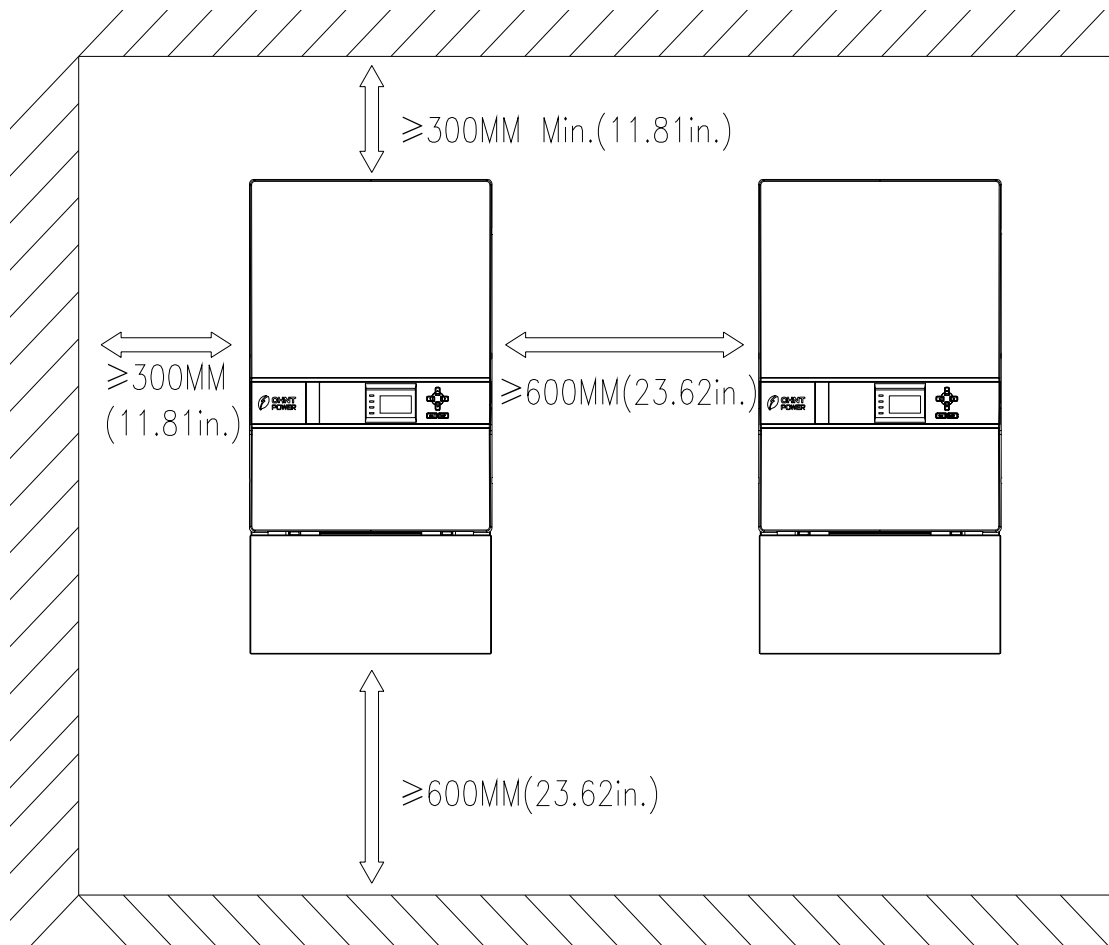

Figure 3-3 Inverter mounting dimensions
(3) Space required for inverter mounting on the wall (as shown in Figure 3-3)